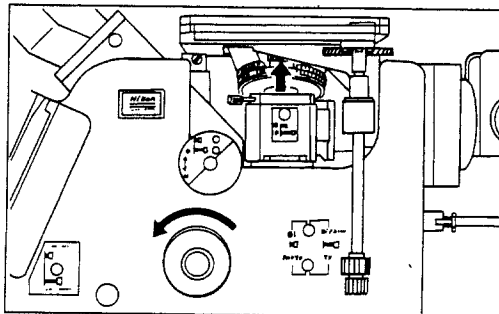

Fig. 31
- The arrows in Fig. 31 show the relation between the direction of rotation of the focus knobs and that of vertical movement of the objective nosepiece.